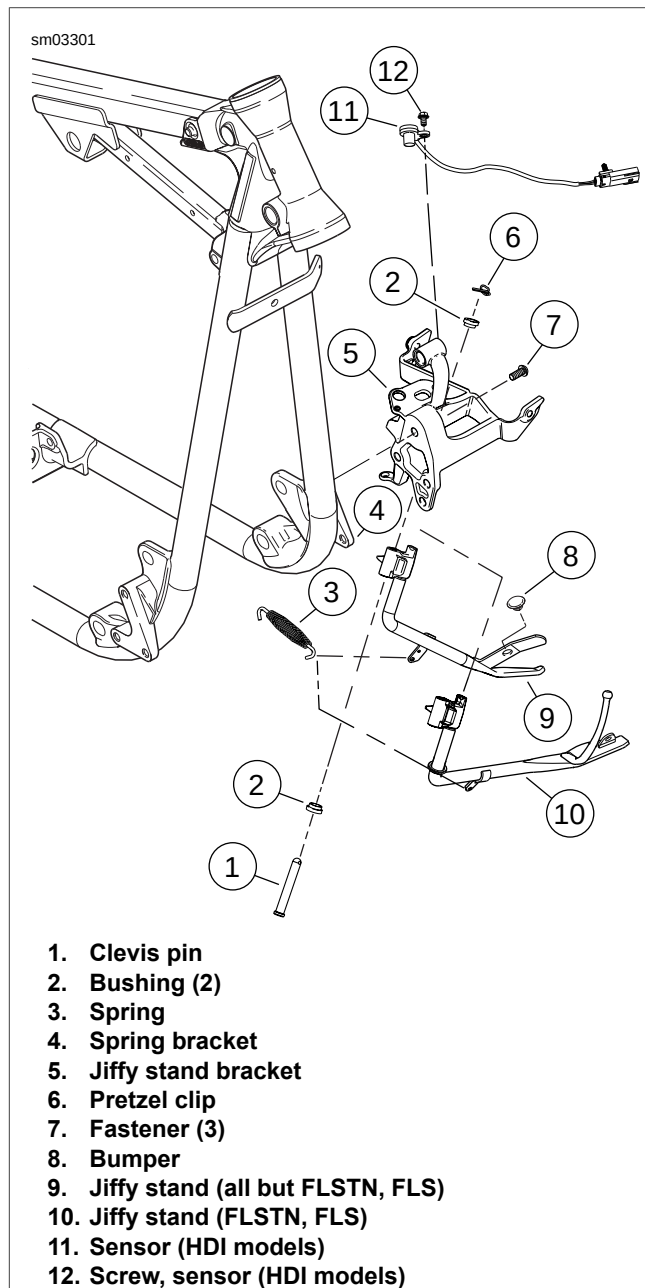

Figure 2-125. Jiffy Stand
2. See Figure 2-125. Inspect clevis pin (1) and bushings (2). If covered with dirt, wipe dirt off with a shop towel and spray clevis pin and bushings with ANTI-SEIZE LUBRICANT.
1. See Figure 2-125. Make a note of harness routing for ease of assembly. Disconnect sensor connector located behind the regulator.
3. Remove screw (12) and remove sensor (11).
4. Installation is in reverse of removal. Tighten screw (12) to 96-144 **in-lbs** (10.8-16.3 Nm).
2. See Figure 2-125. Remove the three fasteners (7) from jiffy stand bracket (5).
3. Detach spring (3) from jiffy stand and spring bracket (4).
4. Remove pretzel clip (6) from clevis pin (1).
5. Remove clevis pin and bushings (2) to free jiffy stand from jiffy stand bracket.
1. See Figure 2-125. Install bracket.
- a. Apply LUBRIPLATE 110 to clevis pin (1).
- c. Install lower bushing (2) on clevis pin (1).
- d. Install clevis pin (1) through jiffy stand (9, 10) and jiffy stand bracket (5).
- e. Place top bushing (2) on clevis pin (1).
- f. Install pretzel clip (6) in clevis pin (1).
- g. Attach spring (3) to jiffy stand (9,10) and spring bracket (4). When properly installed, hook on spring side connected to bracket faces upward.
- h. Install jiffy stand and bracket assembly with three fasteners (7). Tighten to 25-30 ft-lbs (33.9-40.7 Nm).